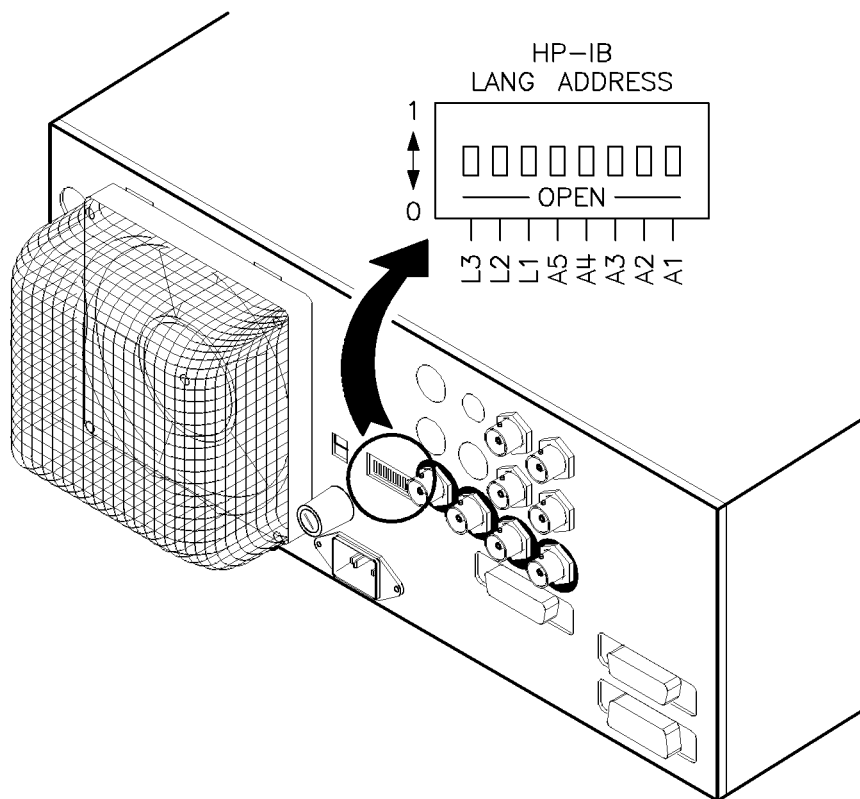

Figure 3-2. Rear Panel HP-IB Switch
To set a programming language from the front panel, the instrument language on the rear panel HP-IB switch (L1, L2, and L3 Figure 3-2) *must* be set to 7 (all 1s).
If the synthesizer displays **Rear panel HP-IB language must be 7 (111) in order to change current language (=XXX)**, the address on the rear panel HP-IB switch (Figure 3-2) is set to something other than 7 (all 1s).
If your synthesizer does not have a front panel, set the rear panel HP-IB switch (Figure 3-2) for the language you want. (See Table 3-1 for language addresses.)
To set an HP-IB address from the front panel, the instrument address on the rear panel HP-IB switch (Figure 3-2) *must* be set to 31 (all 1s).
If the synthesizer displays **Rear panel HP-IB address must be 31 (11111)** in order to change current address (=XX), the address on the rear panel HP-IB switch (Figure 3-2) is set to something other than 31 (all 1s).
To disable the address softkeys, set the instrument address on the rear panel HP-IB switch (Figure 3-2) to any address *other than* 31 (all 1s).
If your synthesizer does not have a front panel, set the address on the rear panel HP-IB switch (Figure 3-2) to the address you want (factory default is 19).